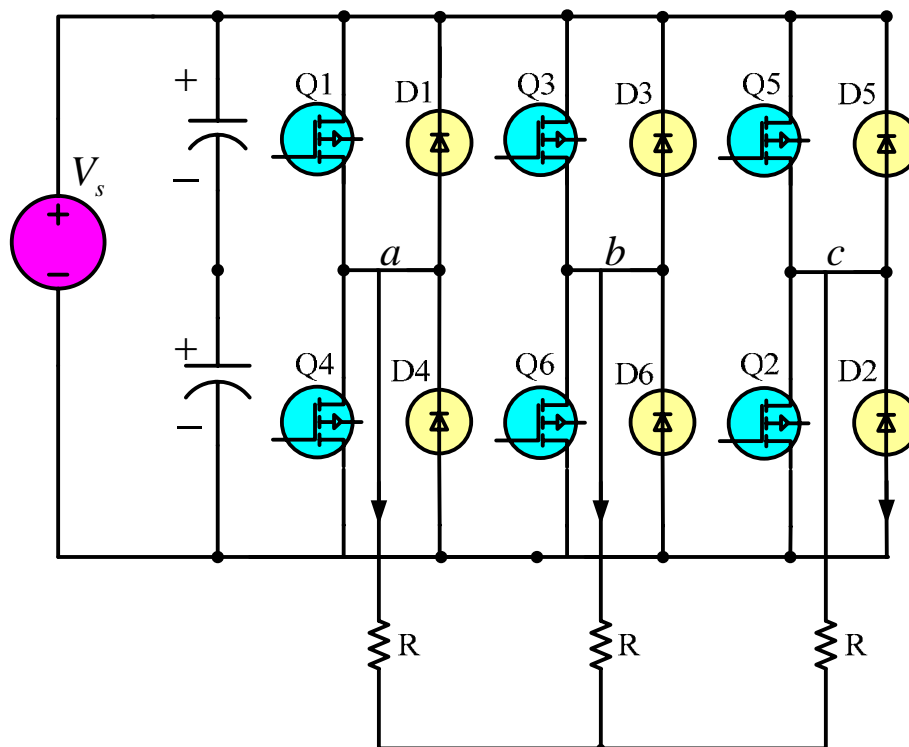

Figure 10-1 Three-phase voltage source inverter
The circuit diagram of a single-phase voltage source inverter is shown in Fig. 10-1. Two types of control signals can be applied to transistors: 180° conduction or 120° conduction. The 180° conduction has better utilization of the switches and is the preferred method. In 180 degree conduction, each transistor conducts for 180 degree. Three transistors remain on at any instant of time. When transistor Q1 is switched on, terminal **a** is connected to the positive terminal of the dc input voltage. When transistor Q4 is switched on, terminal **a** is brought to the negative terminal of the dc source. There are six modes of operation in a cycle and the duration of each mode is 60°. The transistors are numbered in the sequence of gating the transistors (e.g., 123, 234, 345, 456, 561, 612).
1. Run the simulation of Fig 10-1 and complete the Table 10-1 for resistive load.
2. Run the simulation of Fig 10-1 and complete the Table 10-2 for inductive load (use L11, L21, and L31)